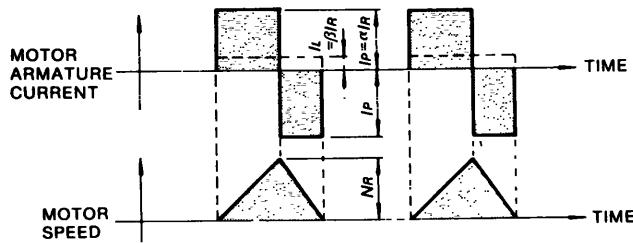

Fig 4.4 Timing Chart of Motor Armature Current and Speed
- When the motor remains at standstill between cycles of acceleration and deceleration without continuous rated speed running (Fig 4.4)
The timing chart of the motor armature current and speed is as shown in Fig.4.4. The allowable frequency of operation "n" can be calculated as follows: